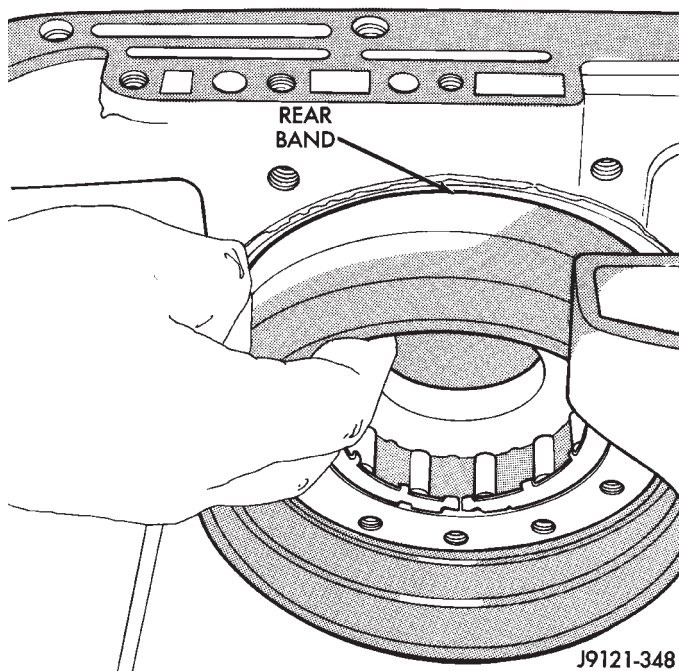

Fig. 107 Rear Band Installation
(4) Lubricate clutch cam rollers with transmission fluid.
(5) Install rear band in case (Fig. 107). Be sure twin lugs on band are seated against reaction pin.